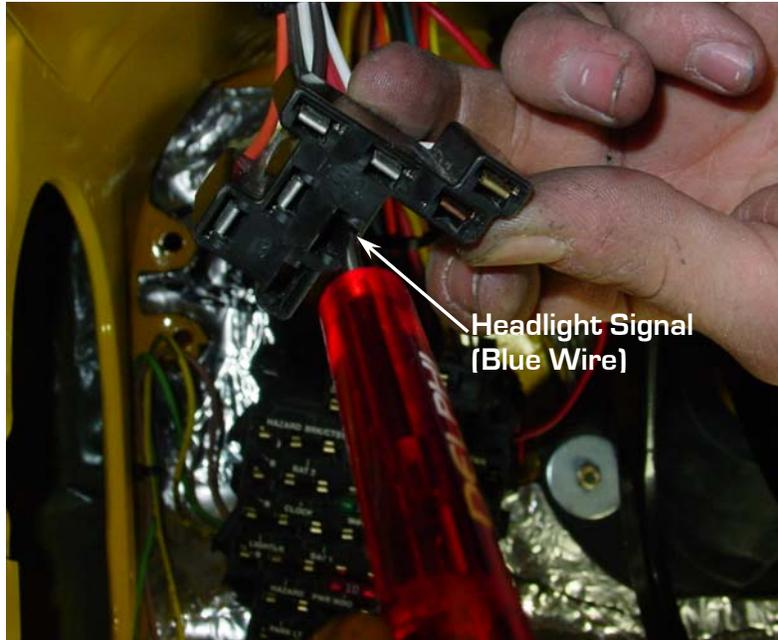

Figure 4 – Locating the Blue Wire
1. Remove the connector from the headlight switch. Locate and mark the blue wire as seen in Figure 4. Remove the terminal from the connector using a terminal removal tool or a small flat blade screwdriver. The blue wire is the 12 volt headlamp feed.